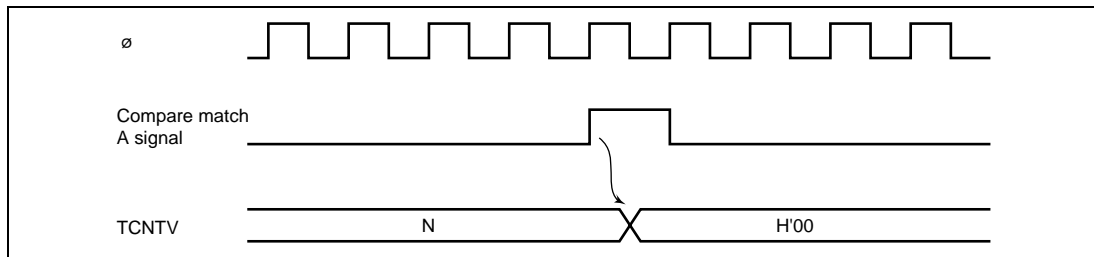

Figure 11.7 Clear Timing by Compare Match
5. When CCLR1 or CCLR0 in TCRV0 is 01 or 10, TCNTV can be cleared by the corresponding compare match. Figure 11.7 shows the timing.